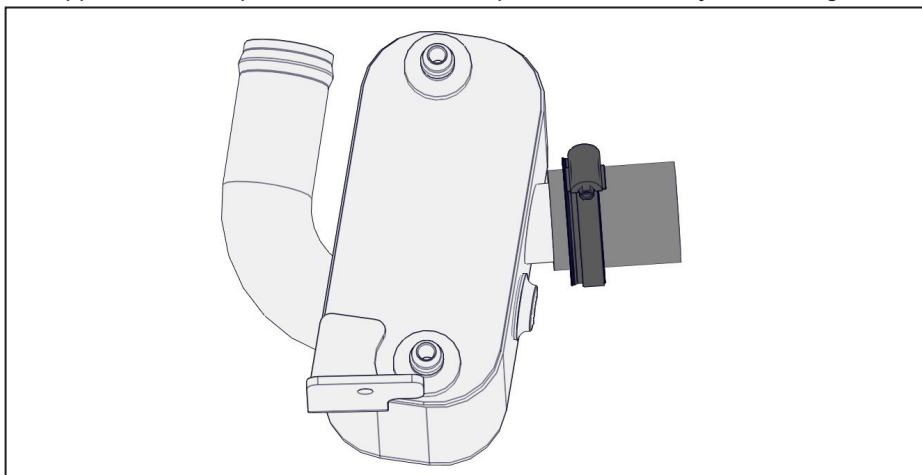

Figure 37 — Install modified hose
- ☐ Install the supplied 4 in hose onto the short oil cooler spigot using one of the supplied hose camps. Leave the hose clamp loose to allow adjustment (Figure 37).